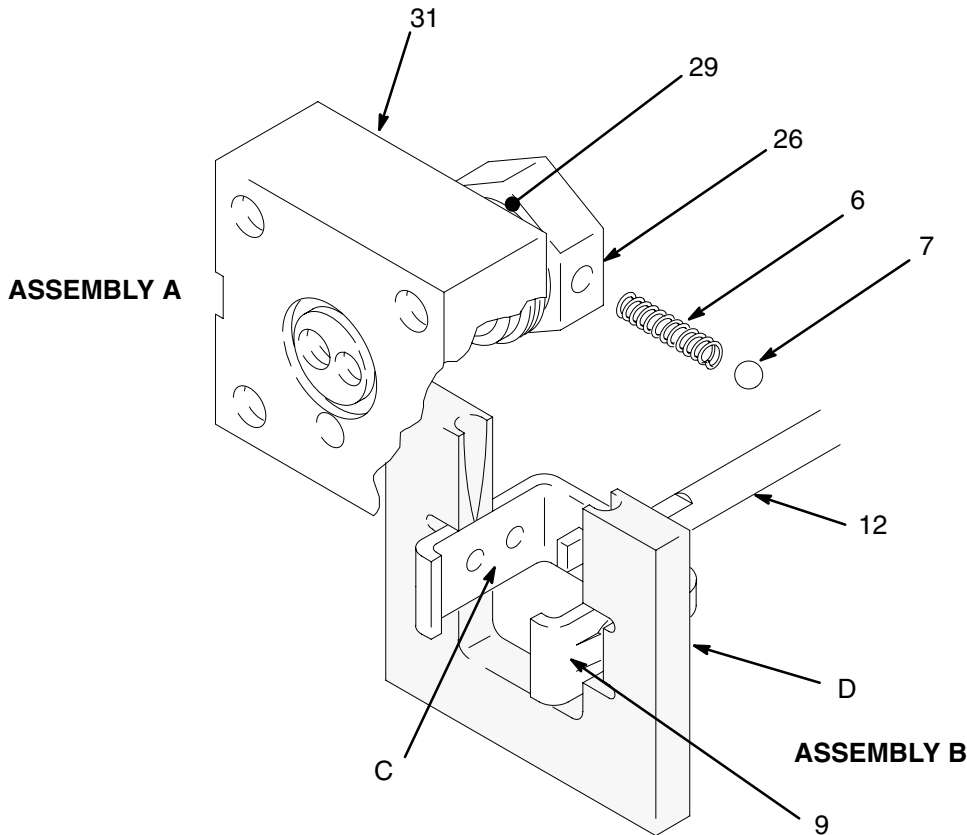

Fig. 10
14. Slide Assembly B into the center of the tool (D), Part No. 189305. Align the upper detent holes (C) of the guide yoke (9) with the center line of the tool (D). See Fig. 10.
15. Insert the spring (6) and one ball (7) into the valve stop (26) of Assembly A. Tilt the valve stop, and start guiding it into the tool (D), making sure the ball is sliding into the rounded slot in the tool (D). Place the other ball at the other end of the spring, and push it in with your thumb while rotating the valve stop (26) until the spring is horizontal and the balls are in place. Continue holding this assembly together. See Fig. 10.
16. Slide the valve stop assembly down onto the tool. Make sure the balls (7) snap into the upper set of holes (C) in the guide yoke (9), and the curved ends of the guide clamp have engaged the valve sleeve (29) groove. See Fig. 10. Slide the tool (D) back over the rod (12) to remove it.